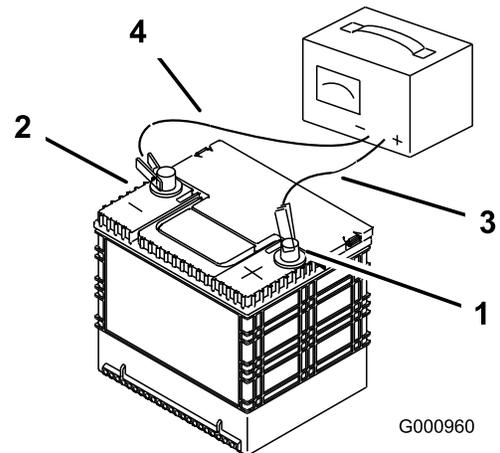

Figure 46
2. When the battery is fully charged, unplug the charger from the electrical outlet; then disconnect the charger leads from the battery posts (Figure 46).